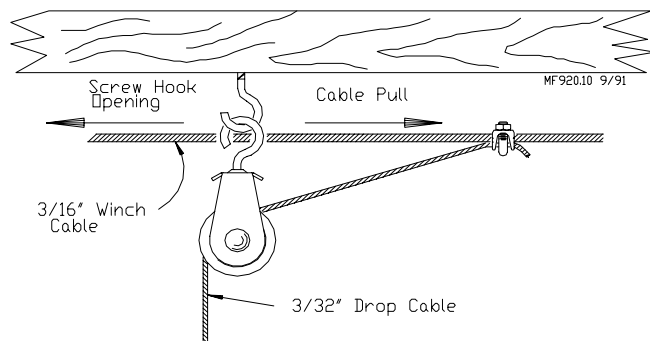

Figure 3. (Side View)
2. Thread the end of the 3/32" or 1/8" cable through the pulley toward the winch. Clamp this end to the 3/16" winch cable about 6" (150 mm) from the last pulley, using a 3/16" cable clamp. See applicable figure; **Figure 3 or 8**.